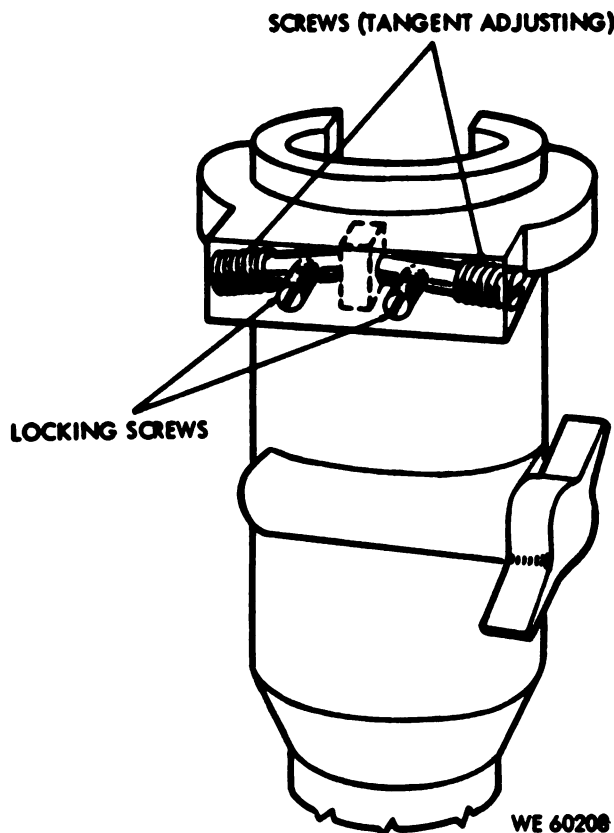

Figure 79. Tangent adjusting screws in telescope socket of telescope mount.
- (7) If the fine elevation indexes (fig. 11) of the panoramic telescope do not coincide, loosen the clamping screws on the elevation knob and shift the elevation micrometer to align the zero with the fixed index. Tighten the screws and verify the adjustment. If the vertical reticle line is not aligned with the distant aiming point, loosen the tangent screws (fig. 79) in the telescope socket and adjust the tangent screws until the vertical reticle line is properly aligned. Tighten the locking screws and verify the adjustment. If the limit of this adjustment is inadequate, refer the telescope and mount to ordnance maintenance personnel for correction.
- (3) Adjusting M12A7Q panoramic telescope to target.
- (b) Loosen locking screws (fig. 79).
- 3. Lower the gun tube to 0 mil; raise the telescope mount to 0 mil with backlash eliminated. If not on target, adjust M12A7Q with mount tangent adjusting screws (fig. 79).